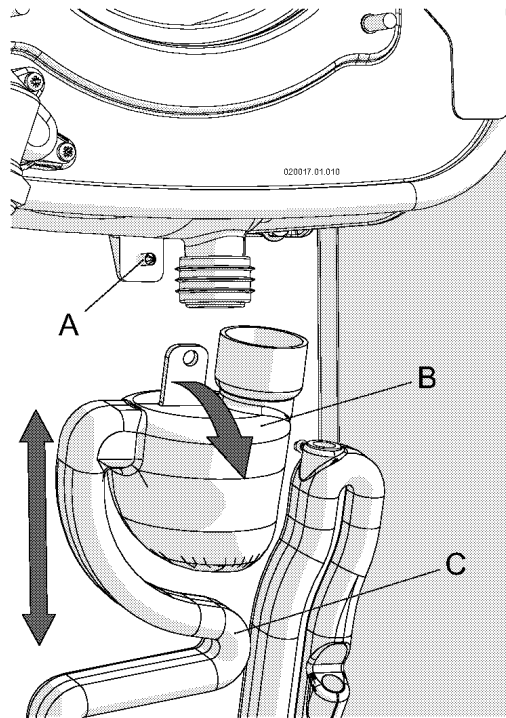

Figure 14-9 Condensate trap removing
2. Pull the condensate trap and remove it from stud "A" (see Figure 14-9);
3. push down the condensate trap "B" (Figure 14-9);